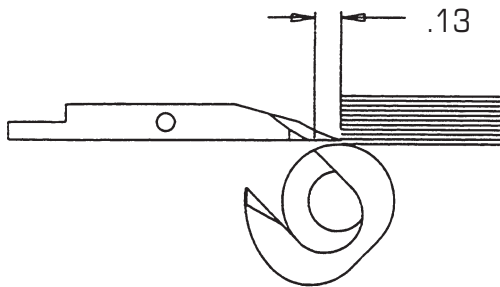

Figure 2
2. Cycle the machine with the hand wheel until the claw reaches between 10 and 11 o'clock. (Figure 2)
3. Cam #115 sets when the separating knife will go into the stack. Adjust the cam so that the tip of the knife is about 1/8" (.13) from the trailing edge of the claw. (Figure 2)